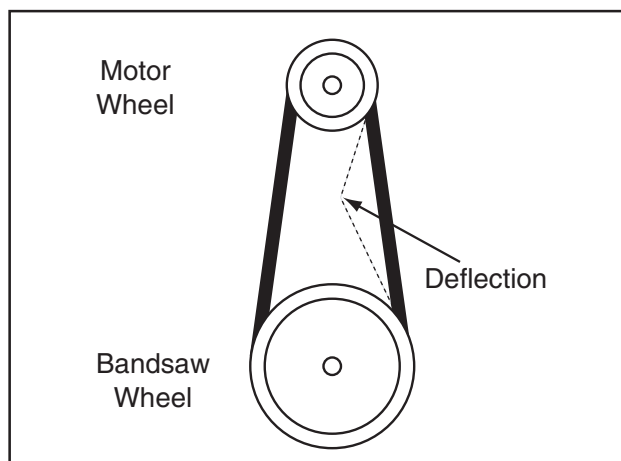

Figure 75. V-belt deflection.
4. Push the center of the V-belts. Note the amount of deflection (**Figure 75**). If deflection is more than $\frac{3}{4}$ ", tension the V-belt.